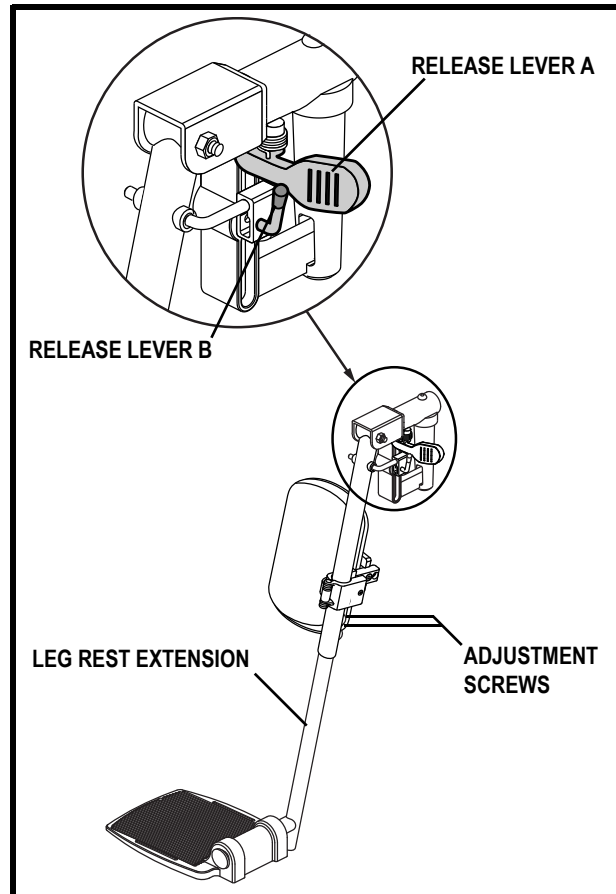

Figure 23. Elevating Leg Rests
1. Push down release lever B. See figure 23.
1. Remove the two adjustment screws from the side of each leg rest extension. See figure 23.